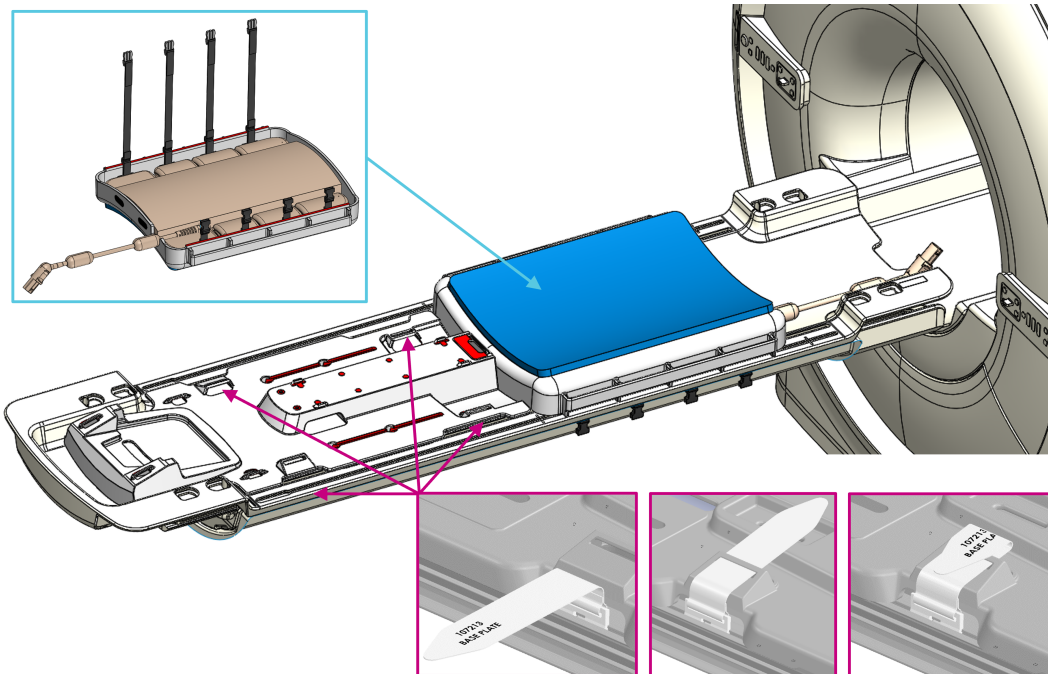

Figure 2: Base plate, coil holder, and patient pad
2. Place the coil in the TULSA-PRO Coil Holder, buckle the straps, and cinch them tightly. Place the Coil Holder with the posterior coil onto the MRI table, with the cable exiting the coil holder towards the head of the MRI table. The feet of the base plate should fit in the rails of the MRI table and should not move when in position. Place the TULSA-PRO® head pad above the coil holder (*Figure 2*).